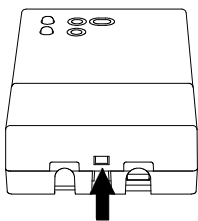

Fig. 2
- 2 Using a screwdriver, push the plastic flap of the bottom slot and slightly lift the cable lid up (Fig. 2).